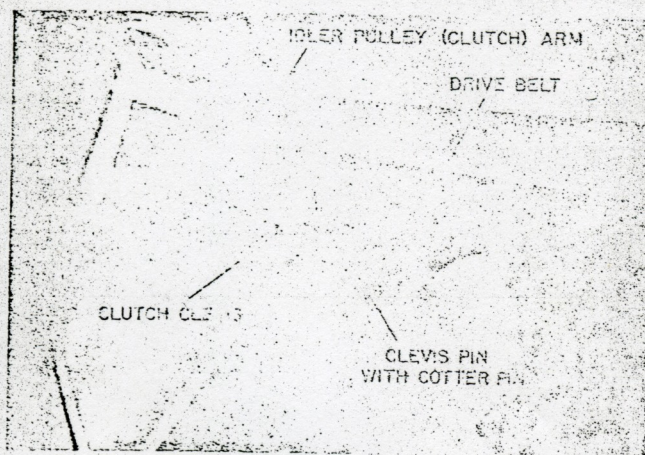

Figure 1
2. Remove the cotter pin and clevis pin from the clutch rod clevis. See Fig. 1.